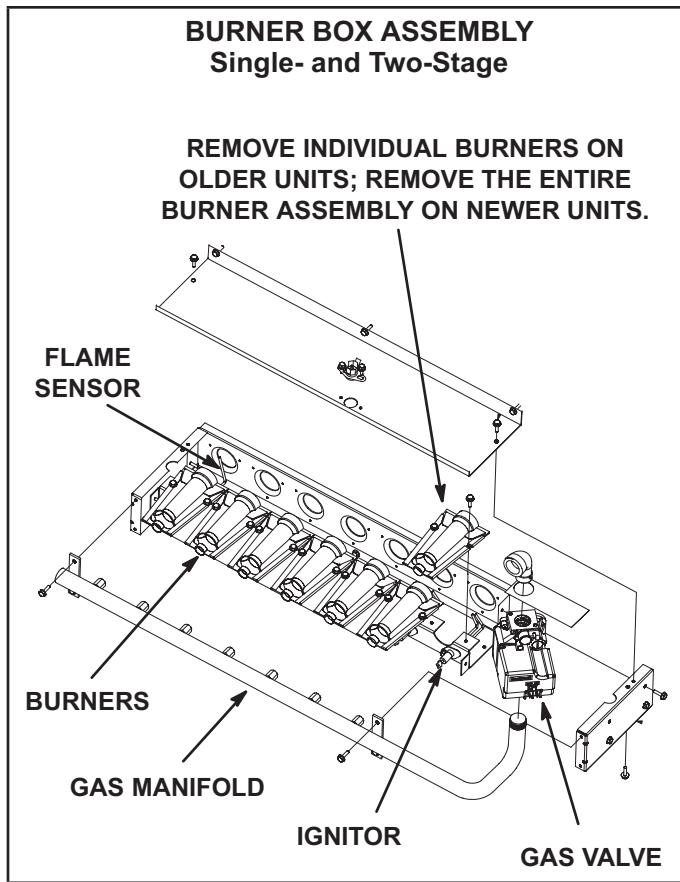

FIGURE 36
- 4 - Remove screws securing burners to burner support and lift the individual burners or the entire burner assembly from the orifices. See FIGURE 36. Clean as necessary.